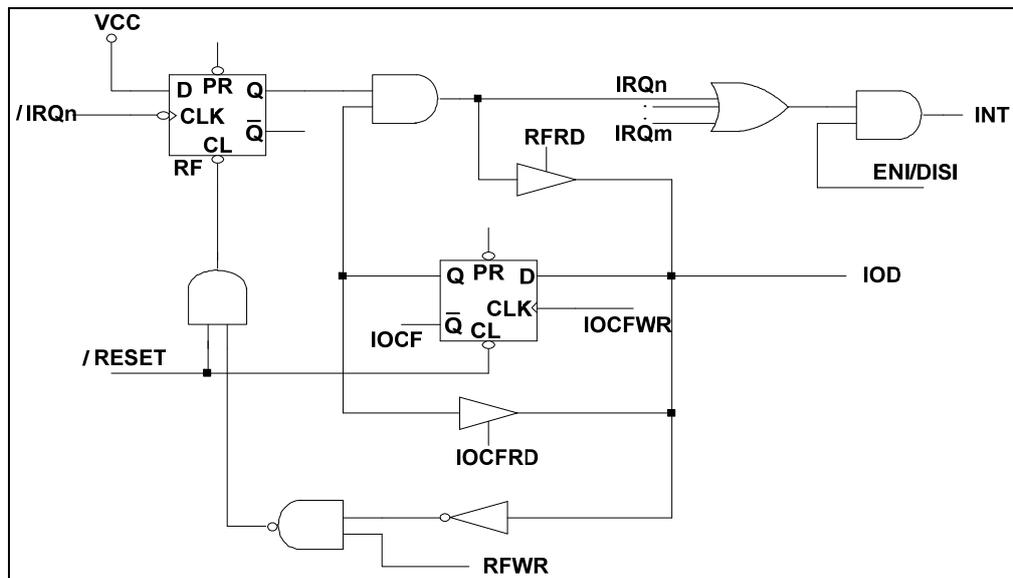

Figure 6-11 *Interrupt Input Circuit Diagram*
The flag (except ICIF bit) in the Interrupt Status Register (RF) is set regardless of the status of its mask bit or the execution of ENI. Note that the outcome of RF will be the logic AND of RF and IOCF (refer to Figure 6-11 *Interrupt Input Circuit*). The RETI instruction ends the interrupt routine and enables the global interrupt (the execution of ENI).